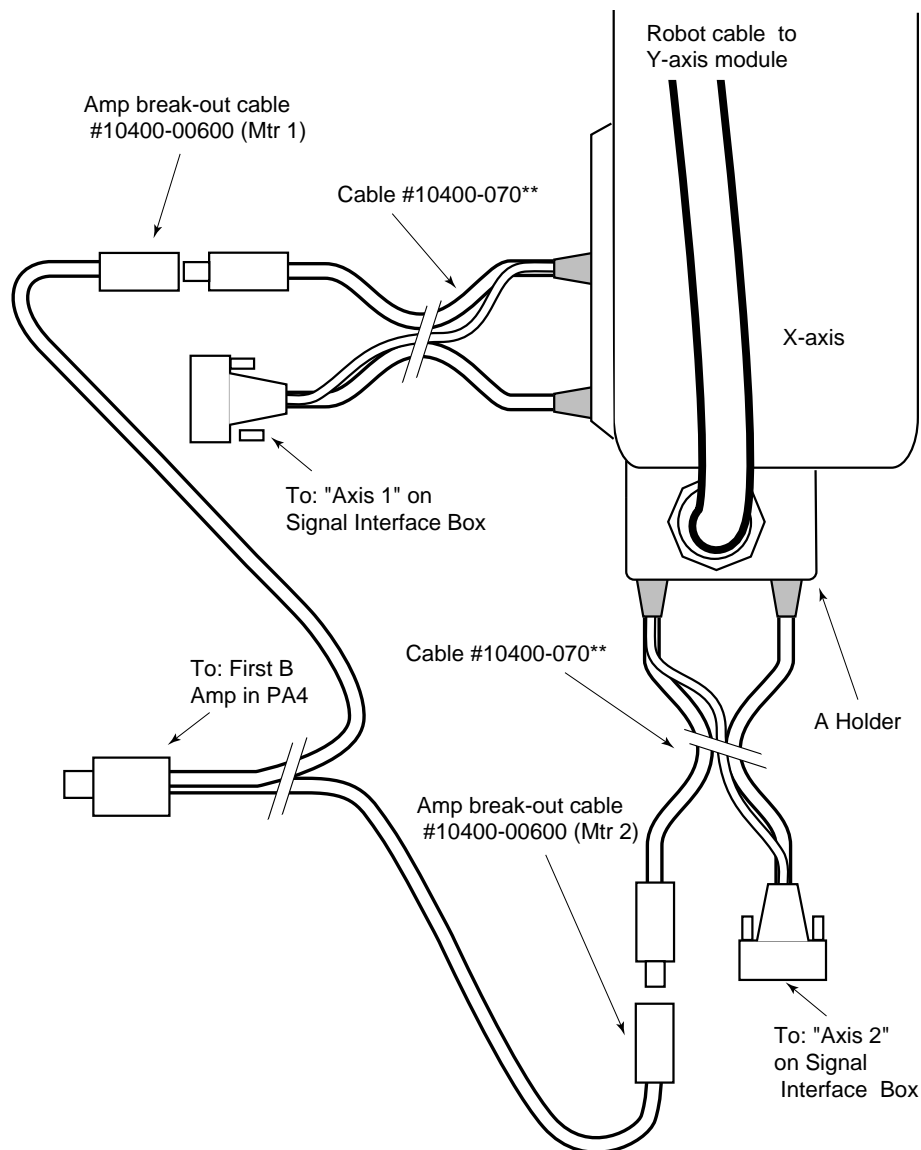

Figure 4-17. Connecting to an Adept MV Controller
- a. Connect the two barrel ends of the cable to the X-axis module as shown in Figure 4-17. These connectors have different pin sizes and cannot be installed incorrectly.
- b. Attach the A holder end of the robot cable to the motor end face of the X-axis module as shown in Figure 4-17 (refer to Section 4.3 for holder mounting).
- d. Connect the two barrel ends of the cable to the A holder as shown in Figure 4-17. These connectors have different pin sizes and cannot be installed incorrectly.